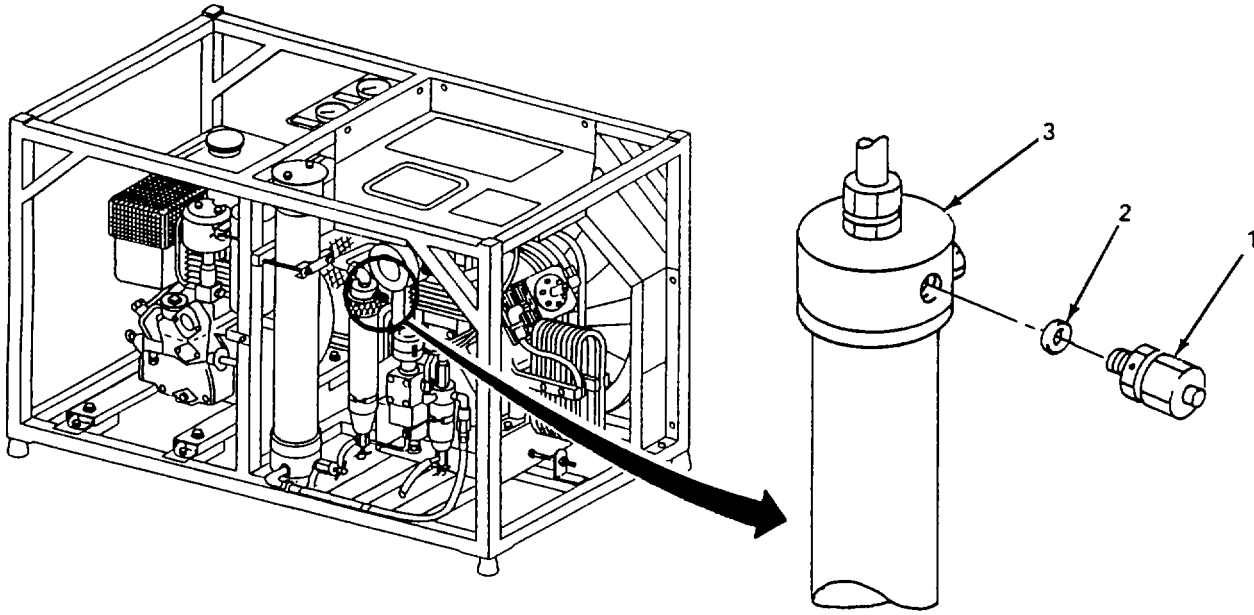

Figure 5-10. Safety Valve, Replace.
Replace. (figure 5-10)**WARNING**
*Replace.* (figure 5-10)**WARNING**
- (1) Remove safety valve (1) and seal (2) from interstage separator assembly (3).
- (2) Install new safety valve (1) and seal (2).